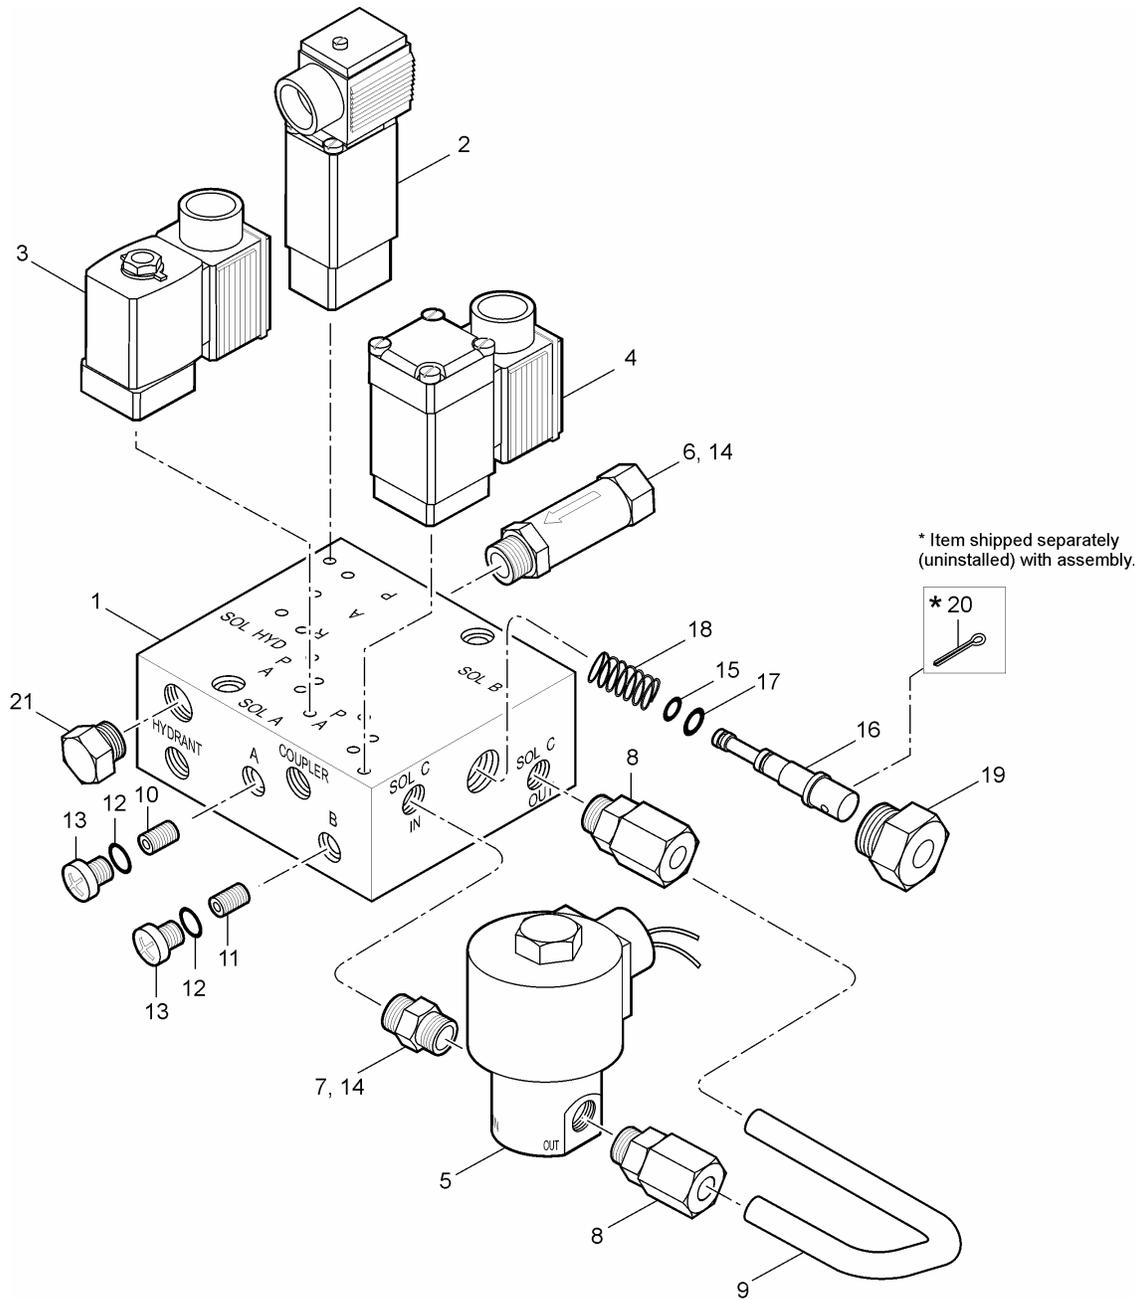

Figure 1
- 5.1 Reassembly is accomplished in essentially the reverse order of disassembly (Ref. Figure 1). A light coat of petroleum jelly may be used during overhaul but do not use any other type of lubricant, **ONLY PETROLEUM JELLY**. Loctite® Vibraseal or equivalent is to be used on NPT pipe thread joints. **THE USE OF TEFLON TAPE IS NOT RECOMMENDED FOR ANY THREADED CONNECTION OF THIS MANIFOLD.**
- 5.6.1 Install Solenoid C (1-5) onto the ¼" Union (1-7) and position as shown in Figure 1.
- 5.8 If any of the Solenoids A (1-3), B (1-4) or D (1-2) were removed, observe orientation of solenoids per markings on the solenoids and manifold block as shown in Figure 1.